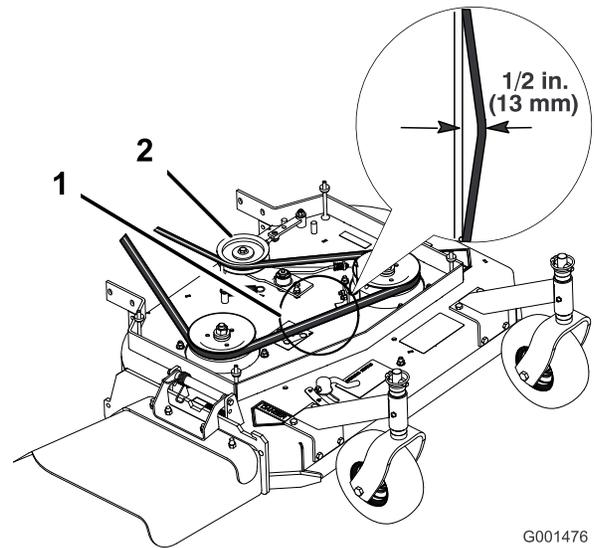
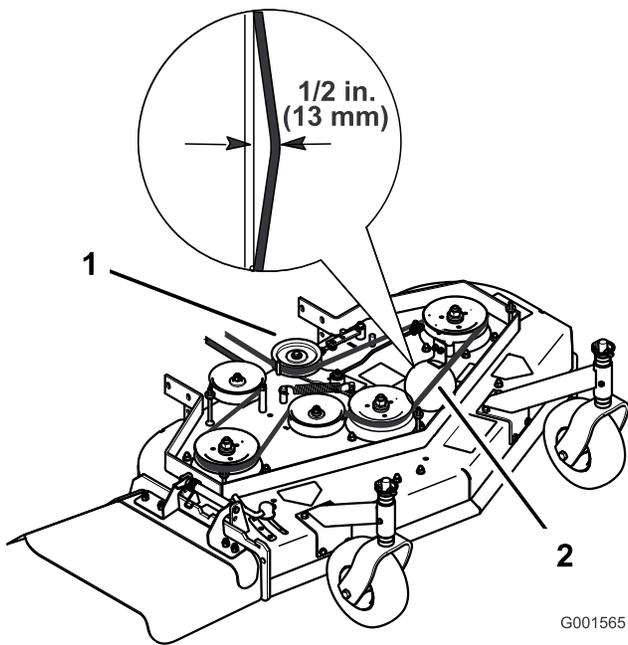

Figure 45
Figure 46
Note: The proper mower belt tension is 44 to 67 N-m (10 to 15 ft-lb) with the belt deflected 13 mm (1/2 inch) halfway between the pulleys (Figure 45 or Figure 46).
3. Loosen the locknut on the turnbuckle (Figure 45).
4. Rotate the turnbuckle toward the rear of the mower to increase the tension on the belt. Rotate the turnbuckle toward the front of the mower to decrease the tension on the belt (Figure 45).
Note: The proper mower belt tension is 44 to 67 N-m (10 to 15 ft-lb) with the belt deflected 13 mm (1/2 inch) halfway between the pulleys (Figure 45).
Note: The proper mower belt tension is 44 to 67 N-m (10 to 15 ft-lb) with the belt deflected 13 mm (1/2 inch) halfway between the pulleys (Figure 46).